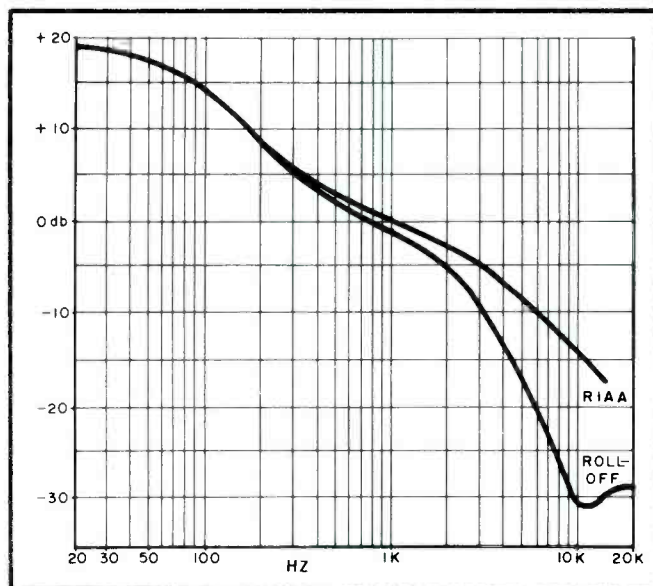

Figure 4. SS3152A Equalization Characteristic.
- (1) Input Level: 5 mv.
- (2) Input Impedance: Variable from 10k to 75k ohms.
- (3) Equalization: RIAA or extra high-frequency roll-off (see Fig. 4)
- (4) Frequency Response:
- (a) Without roll-off filter; ± 1 db of RIAA curve, 30 hz to 15 khz, ref 1 khz.
(5) Output Levels: